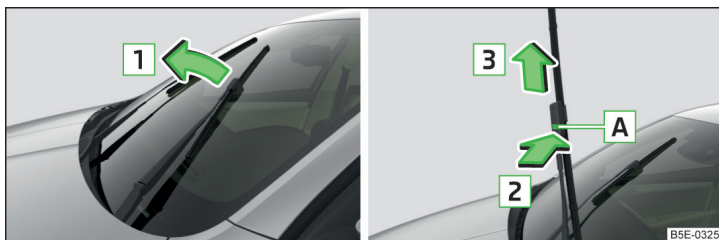

Fig. 229 Windscreen wiper blade
- › Lift the wiper arm from the window in the direction of **1** » Fig. 229.